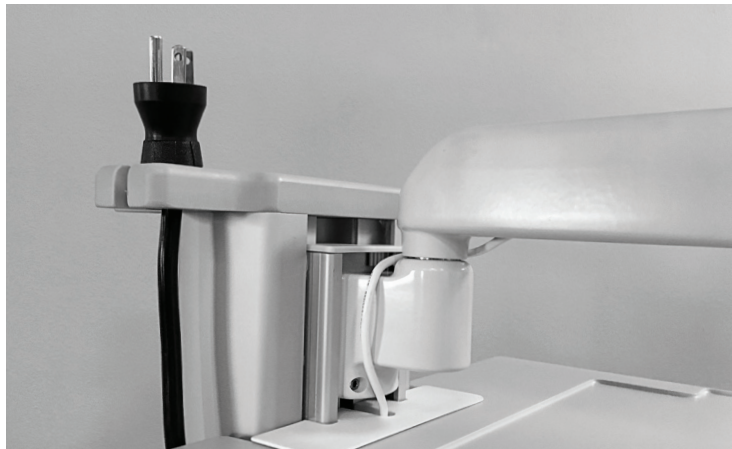

Figure 17: Power Cord Holder
4. Secure the Coiled Power Cord from the Power Strip on the Power Cord Holder of the Tower. See Figure 17.